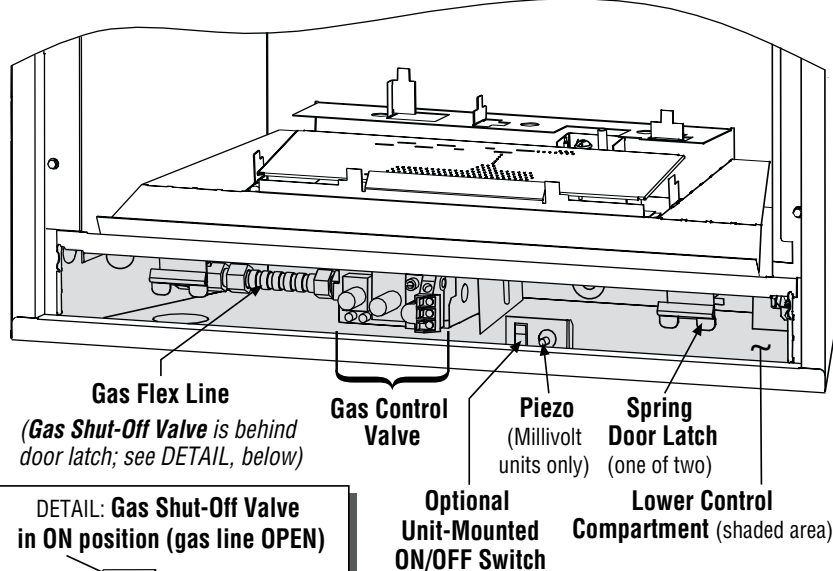

Figure 1
Fireplace gas controls are located in the lower control compartment under the firebox (see **Figure 1**). Remove the control compartment door to access the controls.
- For general control location, see **Figure 1**.
Available ON/OFF control options for both **MILLIVOLT** and **ELECTRONIC** models include a unit-mounted ON/OFF switch (shown in **Figure 1**), a wall switch, or a remote control system. See the "Accessory Components" section in this manual for details.